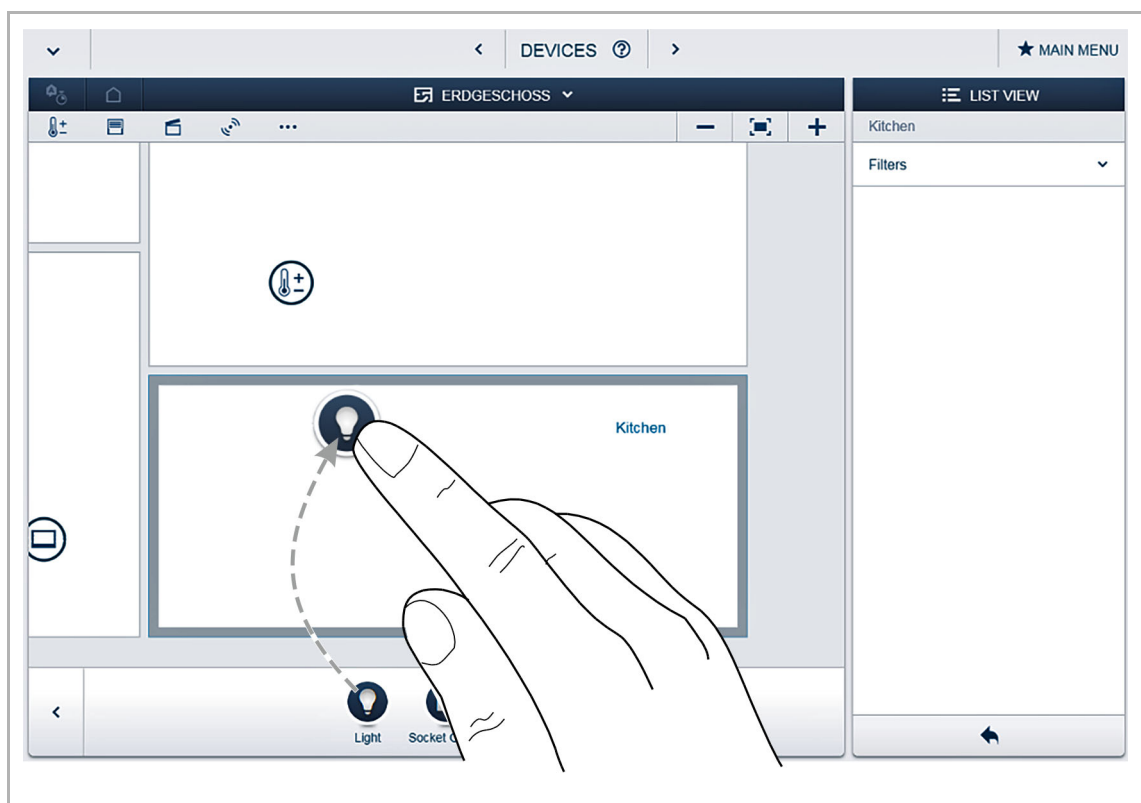

Abb. 28: Dragging the application from the add bar
- In the "Add devices" bar select the desired application and pull it via drag-and-drop into the floor plan, see Abb. 28.